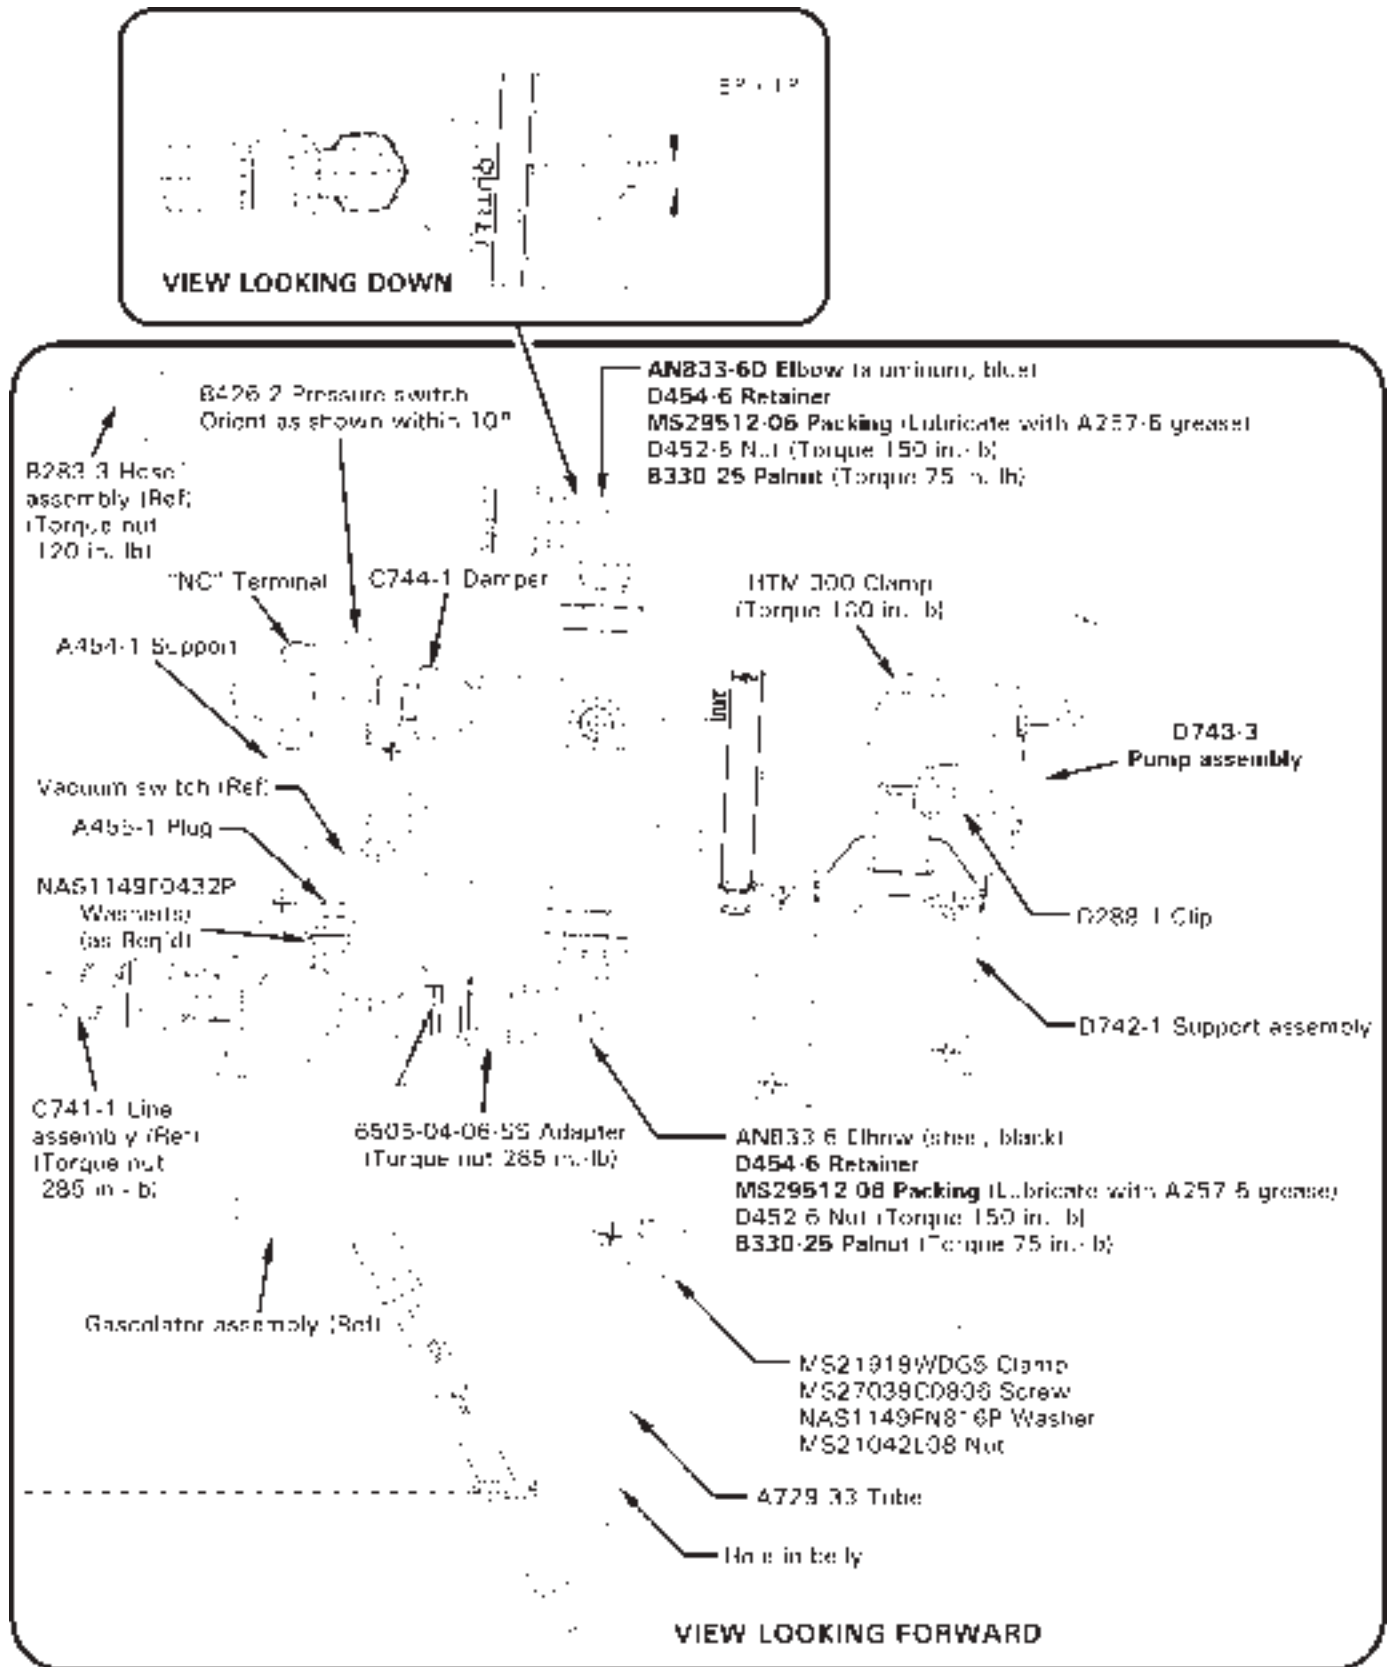

FIGURE 12-8 GASCOLATOR ASSEMBLY AND AUX FUEL PUMP INSTALLATION
2. Refer to Figure 12-8. Clean exterior of gascolator, D743 electric (aux) fuel pump (R44 II), attached fittings, C741-1 line assembly, and B283-3 hose assembly.
1. Refer to Figure 12-8. Install AN833-6 steel elbow in inlet, and new AN833-6D aluminum elbow in outlet of new D743-3 or D743-4 aux fuel pump assembly per the following:
- b. Rotate combined nut & retainer until packing is pushed against outboard threads. Screw elbow into pump until packing contacts pump, indicated by a sudden increase in torque. Hold nut with wrench and tighten elbow no more than one full turn until elbow points away from motor. Position the steel AN833-6 lower elbow parallel to the long axis of the pump. Per Figure 12-8, Detail A, position the aluminum AN833-6D upper elbow approximately 5° counterclockwise from parallel to long axis of pump (looking down). Hold elbow and special torque D452-6 nut to 150 in.-lb, special torque palnut to 75 in.-lb, and torque stripe per Figure 2-1.